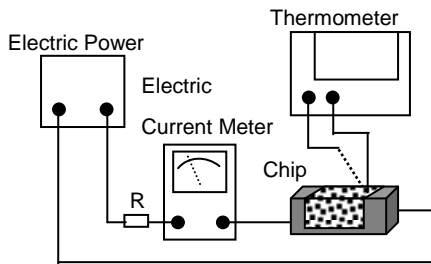

Fig. 5.3.3-1
- d. Definition of Rated Current (I_r): I_r is direct electric current as chip surface temperature rose just 20℃ against chip initial surface temperature (T_a). (See **Fig. 5.3.3-2**)